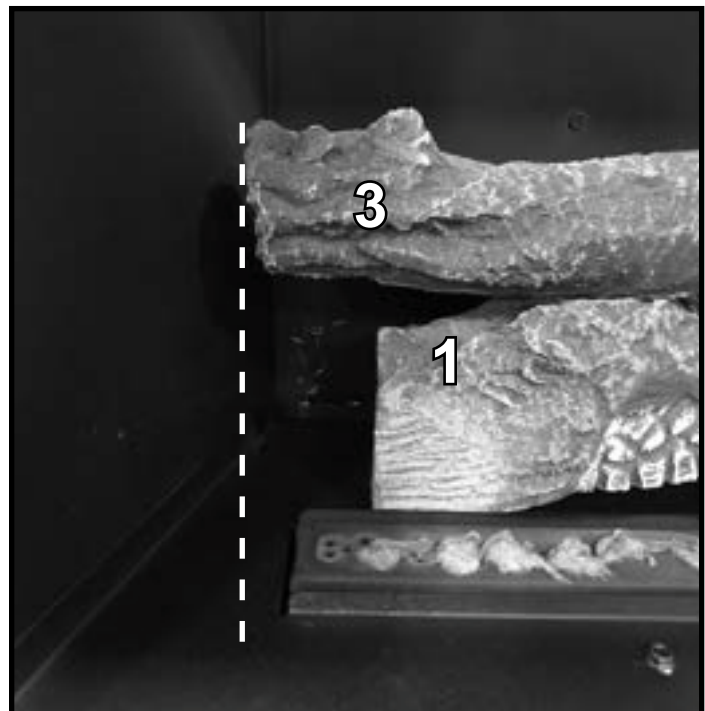

Figure 20. Place Log #3
**Note:** When Log #3 is correctly positioned on Log #1, the left side of the log will be just outside the left end of the burner. See Figure 20.